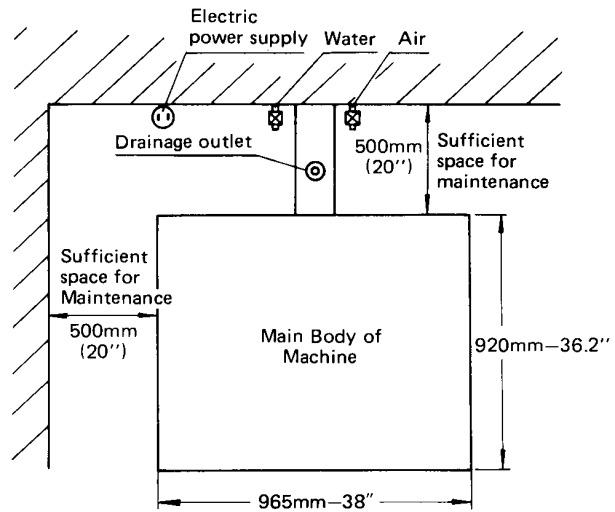

Fig. A-1
- (1) When installing the dicing saw, full consideration should be given to the provision of levelness.
- (2) Piping hoses should be connected after removing all dirt from the inside.
- (3) After installation has been completed, check that all cords and hoses are firmly clamped in place.
- (4) The drainage outlet should be placed beneath the main unit. (See  mark in Fig. A-1.)
- (5) Piping joints should always be secured by means of the hose clamps provided.
- (6) Always use dry air (dew point less than -15° -5° F) passed through a filter (0.003PPM wt/wt) or nitrogen gas (N_2) as the air source. (An optional refrigerator-type air drier is available.)
- (7) Always connect the ground to an anchor ground. Set the resistance at the point to grounding (class 3 ground) to 100 ohm or less.
- (8) The dicing saw should be installed on a bench of adequate strength. (The dicing saw weighs about 313kg – 689 lb.)
- (9) Remove all the shipping brackets provided for securing the X, Y and Z axes during transportation.